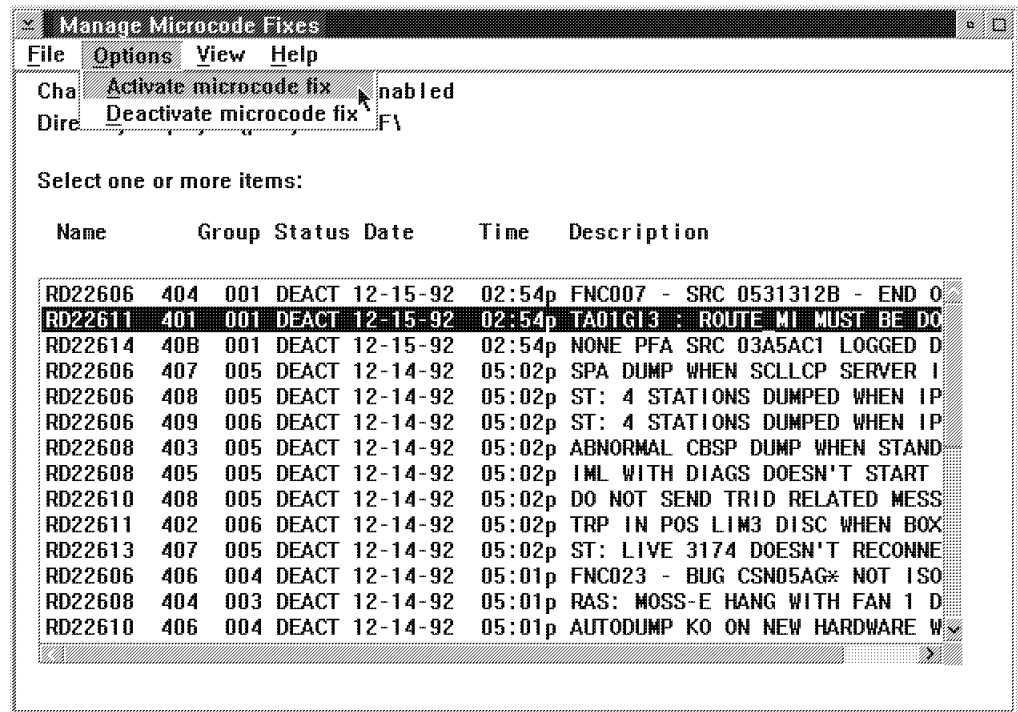

Figure 2-16. Manage Microcode Fixes
14. Click on the lines of the MCFs to be applied (see example in the Figure 2-16 on page 2-23).
7. Click on the lines of the MCFs to be removed (see Figure 2-16 on page 2-23).